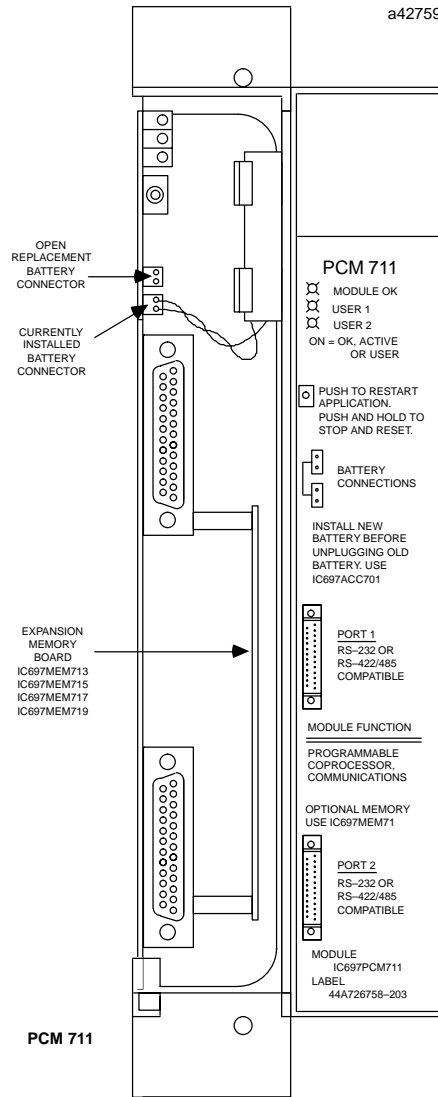

Figure 2. Programmable Coprocessor Module - User Details
- Connect the battery to either of the battery connectors on the module. (See figure 2)
The PCM can operate with or without an expansion memory daughter board. The base memory on the PCM board has up to 95 Kbytes user memory. The expansion memory daughter board permits expansion of program/data memory by 64, 128, 256 or 512 Kbytes. The battery which supports this memory is located on the base board housing as shown in figure 2.
Three Status LEDs are available as shown in Figure 2. The top LED indicates the condition of the module, the bottom two LEDs may be assigned to a configured function.
A lithium battery (IC697ACC701) is installed as shown in figure 2. This battery maintains user memory when power is removed. Be sure to install the new battery before removing the old battery.